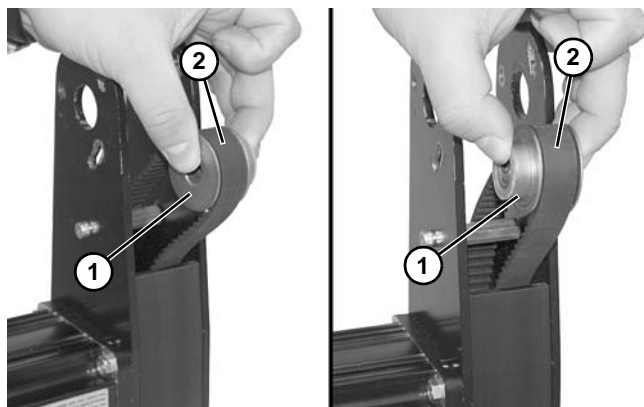

Figure 24
7. Remove driven pulley (**Figure 24, item 1**) from timing belt (**Figure 24, item 2**).